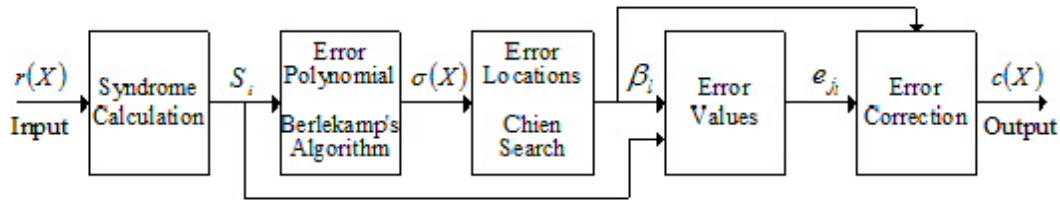

Fig.1: Codeword for systematic Reed-Solomon coder
This model is used to perform Reed-Solomon (RS) decoding. A systematic  $RS(n,k)$  code, which is defined on Galois Field ( $2^m$ ), consists of  $k$  input data symbols and  $(n-k)$  parity code symbols. For details about RS coding, please refer to the **rsCod** model. A general architecture for RS decoder is shown in Fig.1